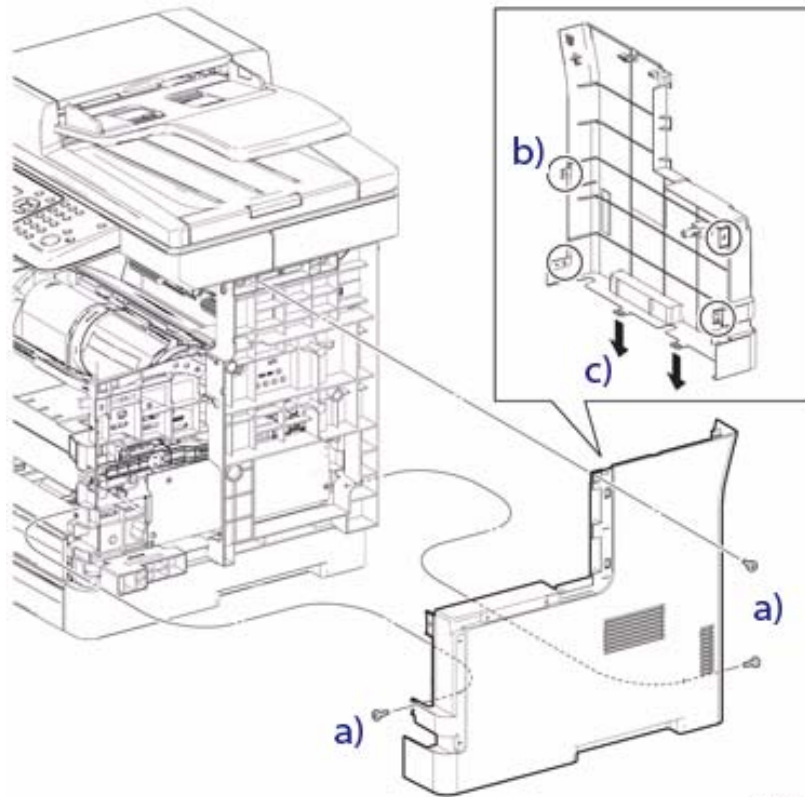

Figure 2
6. Remove the Right Side Cover. (Figure 2)